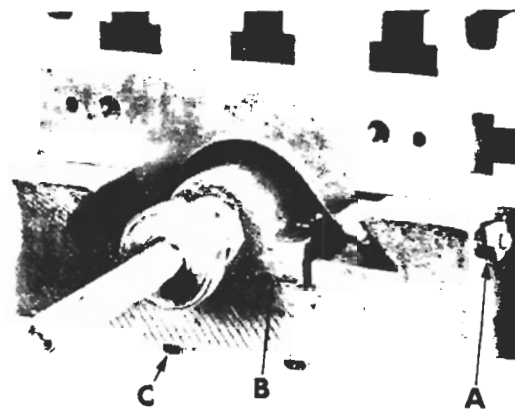

Figure 48
11. Remove two screws (C, fig. 48) from table feed nut (B). Drive dowel pins from feed nut and remove.